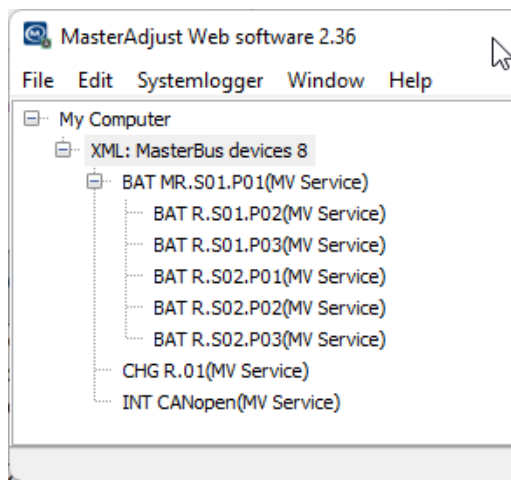

Figure 2: MasterBus devices for a 36 kWh battery system with one charger
- Now all Mastervolt devices on the bus are displayed. Figure 2 shows an example view of the devices of a 36-kWh-battery system with a charger. For a 48 kWh-system, 8 battery modules (BAT R.S0x.P0x) must be visible, and for a 60 kWh-system, 10 battery modules must be visible. For a system with three chargers, three CHG R.0x devices must be visible.